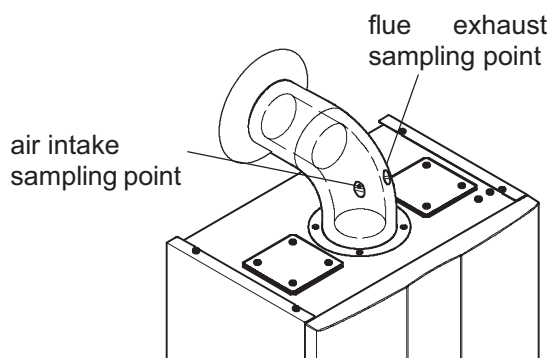

Figure 11.4
- 11 Fit the probe of the flue analyser in the flue exhaust sampling point located on the exhaust pipes of the boiler (Figure 11.4).